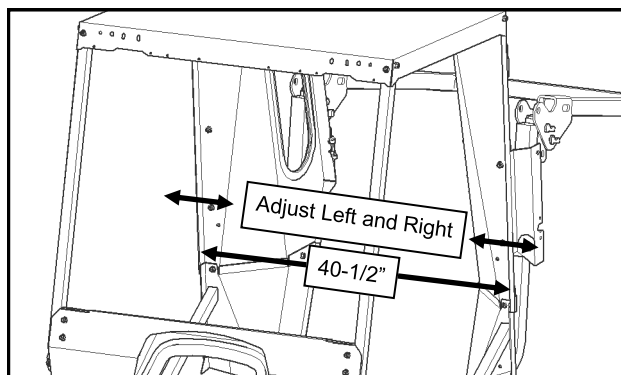

Fig. 15.1 (Measure Rear Legs Left and Right)
- 15.1** Adjust the bottom of the rear legs side to side to get the outer surfaces approximately lined up with the sides of the black plastic housings (if equipped) on top of the rear fender. See figure 15.1. The outer flanges of the legs should be about 40-1/2" apart, outside to outside.